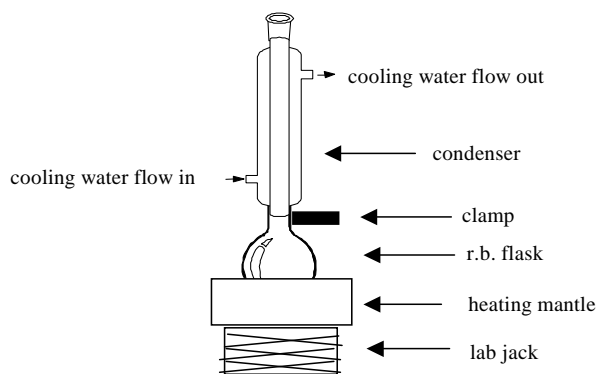

Figure 10.5 Reflux apparatus
2. Set up a reflux apparatus as shown in Figure 10.5, using a clean and dry condenser and a appropriately sized round-bottomed flask.